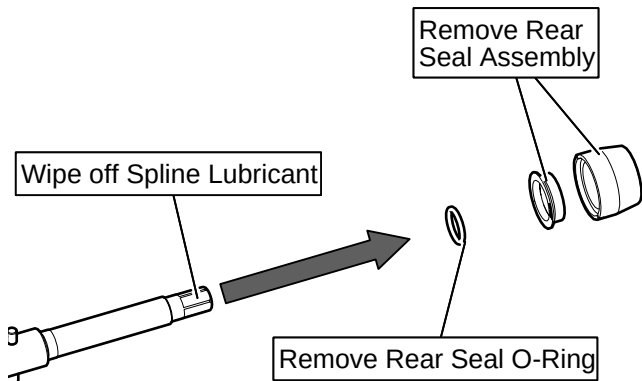

Figure 3-4 Rear Seal Assembly
4. Wipe the spline lubricant off of the hex end of the auger with a paper towel. Remove the rear seal assembly (Fig. 3-4).